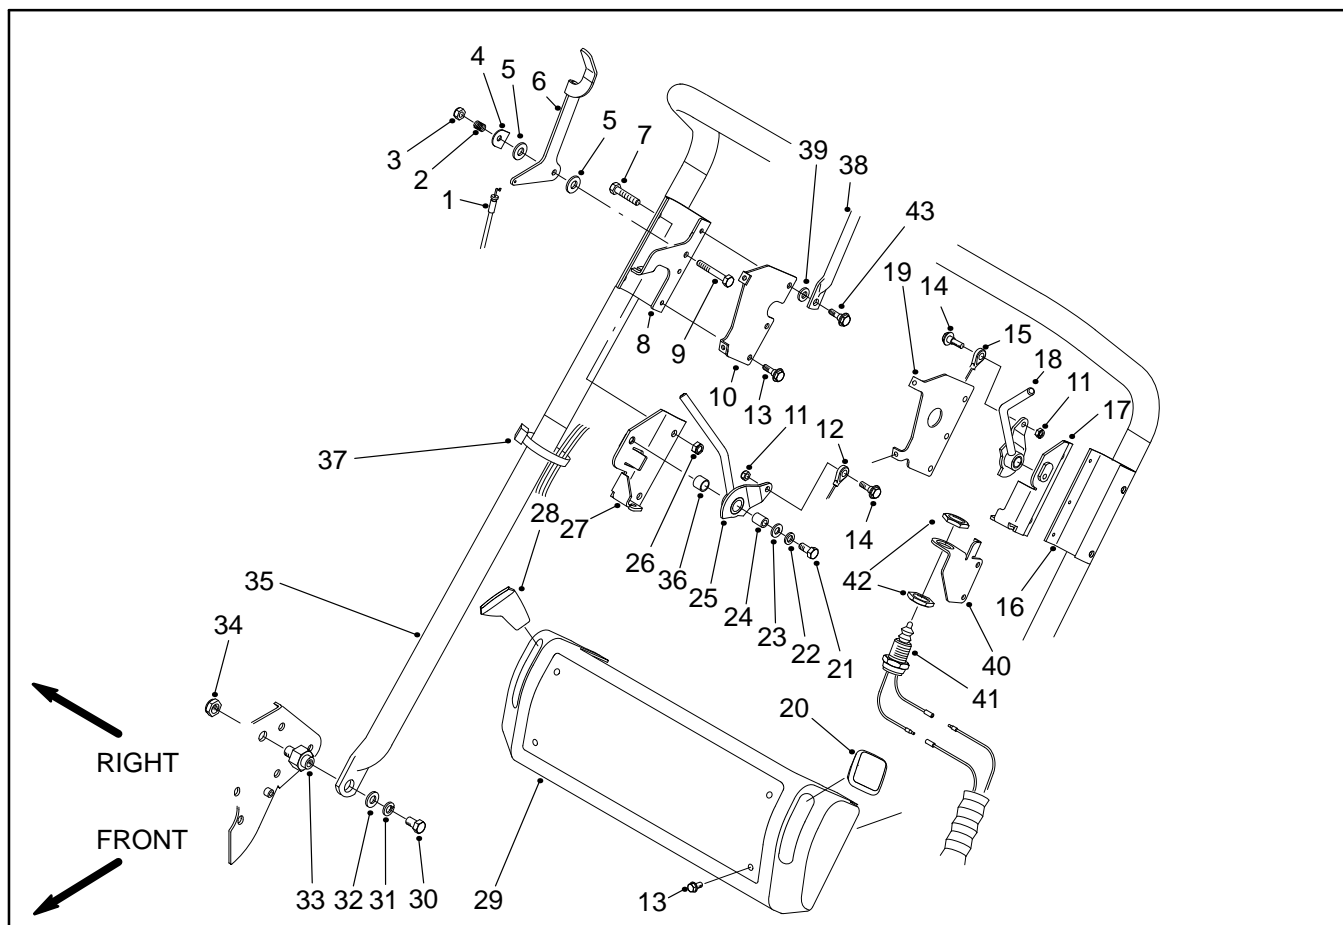

Figure 2
3. Remove cap screw (30), spring lock washer (31), and flat washer (32) from each handle pivot pin (33) on each of the handle (35) ends (Fig. 2 and 3).
1. Slide handle ends through the holes in the handle arms. Squeeze handle ends inward. Install handle ends to the handle pivot pins (33) on each side of the frame. (Fig. 2 and 3).
3. Install cap screw (30), spring lock washer (31), and flat washer (32) to each handle pivot pin (33) on each of the handle (35) ends (Fig. 2 and 3).
4. Make sure brake is disengaged and the clutch is engaged so the console (29) can be positioned to access the brake lever (18) and brake cable (15) (Fig. 2).
5. Remove four screws (13) securing the console (29) to the console brackets (10 and 19). Position console forward and away from the brackets (Fig. 2).
**Note:** On models without the operator presence kit, the bail assembly, switch, and switch bracket are not installed on the handle assembly. The shoulder bolt and spacer are substituted by an additional screw on both sides of the handle assembly (Fig. 2 and 6).
7. Remove shoulder bolt (14) and lock nut (11) from the brake lever (18) and brake cable (15) eyelet (Fig. 2).
8. Loosen nut securing the brake cable (15) to the brake bracket (17). Remove cable from the bracket. Remove brake cable from the mower.